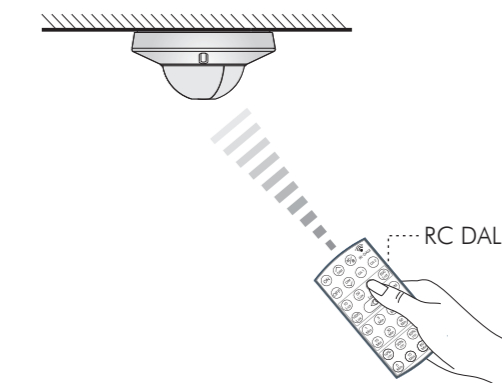

FIG.21
6.1 For easy and safe setting operations, it is highly recommended to purchase our high quality IR remote controller RC DALI together with KDP-DALI-03 (See FIG.21).